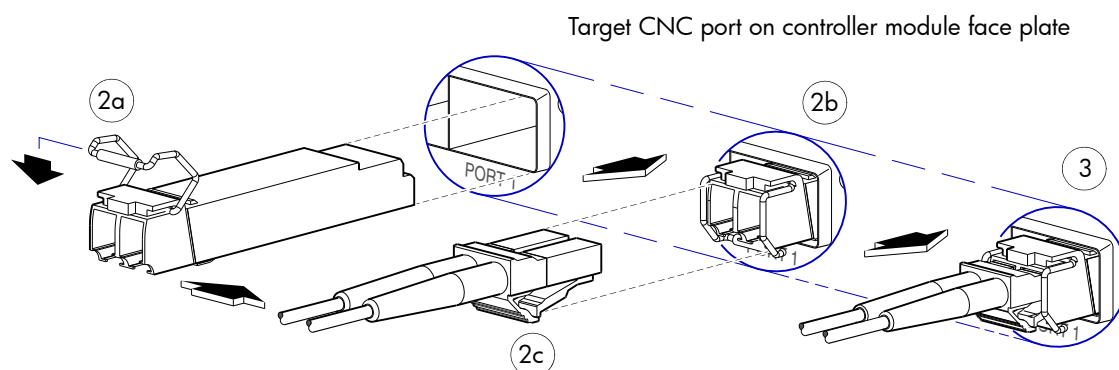

Figure 33 Install the SFP into the CNC port
2. Install the SFP and connect the host interface cable per Figure 33 below: